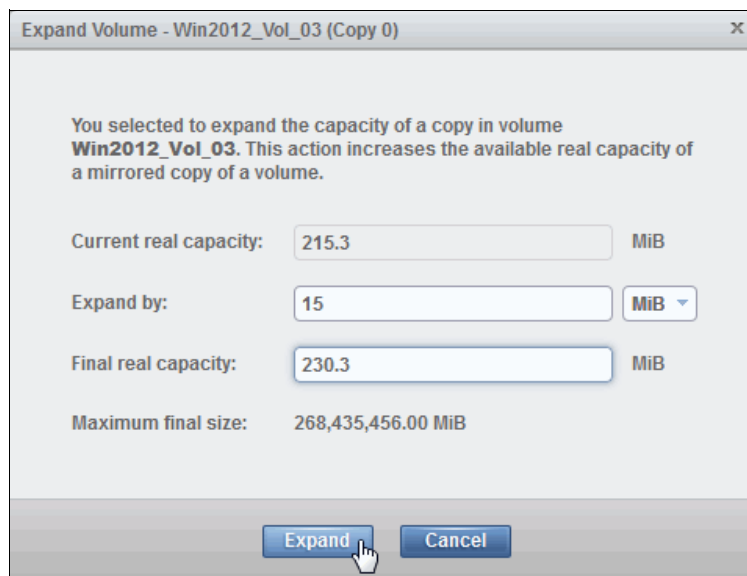

Figure 8-65 Expand Thin-Provisioned Volume pane
2. Enter the amount by which space should be allocated or the new final size and click **Expand**. In this example, shown in Figure 8-65, we are expanding the thin-provisioned space by 15 mebibytes (MiB).